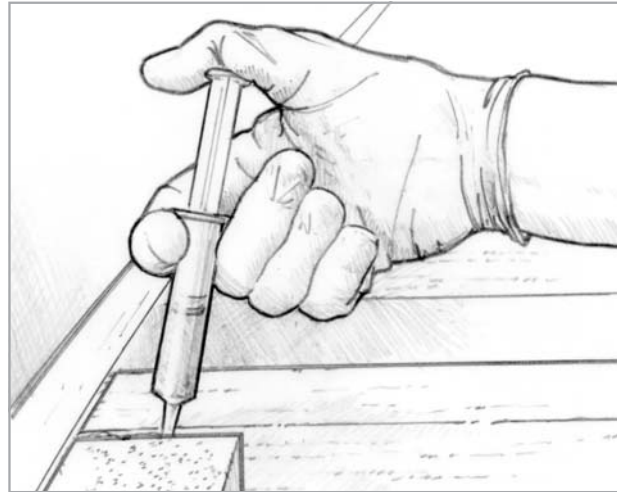

Figure 4-8 Inject epoxy as far as possible into the joint.
4. Apply thickened epoxy to the contact area of the joint. Use a syringe to inject a G/flex 655 mixture to the middle of the joint (*Figure 4-8*). A small plastic tube or straw taped to the spout of the syringe will extend the reach of the syringe into a tight area. Inject enough of the thickened mixture so that a small amount will squeeze out when the joint is clamped together.